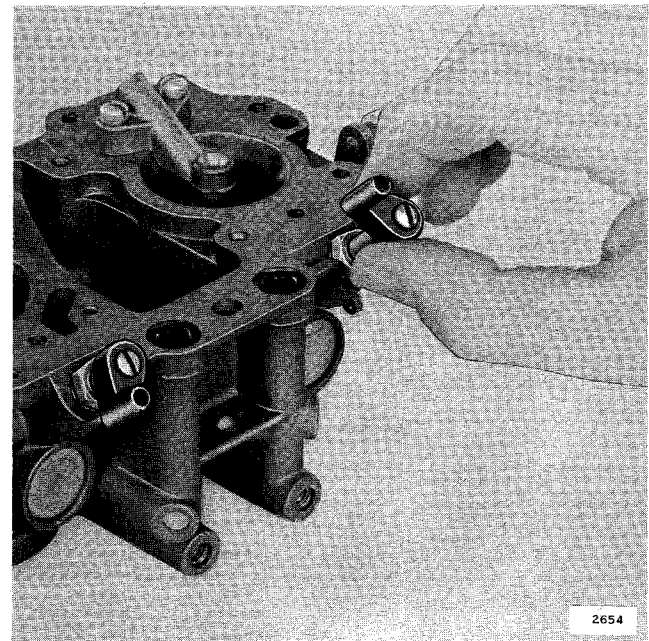

Figure 3-13. Removing Low-Speed Valves
d. Remove low-speed needle packing nuts and low-speed needle valves from carburetor. Removal of needles will be facilitated by replacing knobs upside down on needles. See Figure 3-13.